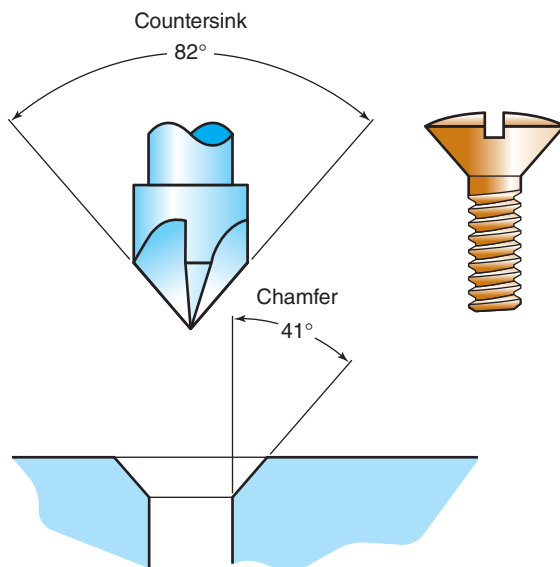

Figure 10-63 An 82° countersink produces a 41° chamfer.
- To provide a conical nest for a flat head screw (as shown shortly in Fig. 10-63)
You might see either term used on a print (Fig. 10-63). While they are related, they are different terms. A chamfer is a small angular cut at the intersection of two surfaces and it can be around a hole entrance.
The two common included angles for countersinks are 82° and 90°, although others are used in industry. Flat-head and oval-head screws (Fig. 10-63) are made with 82° shoulders.